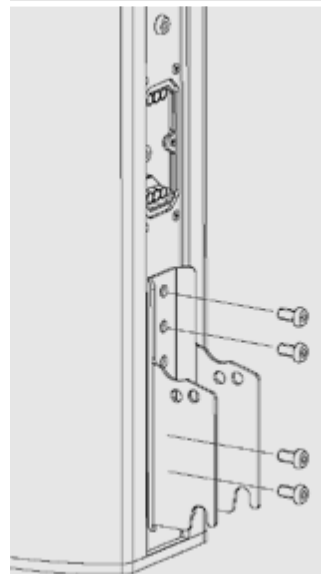

Figure 6
3. Fix the loudspeaker to the **WLX-100/WLX-221** mounting plate. Apply medium-strength thread lock fluid to all screws. On both brackets, use four of the locking screws you just removed. Tighten all screws according to the required torque. **SEE FIGURE 6.**